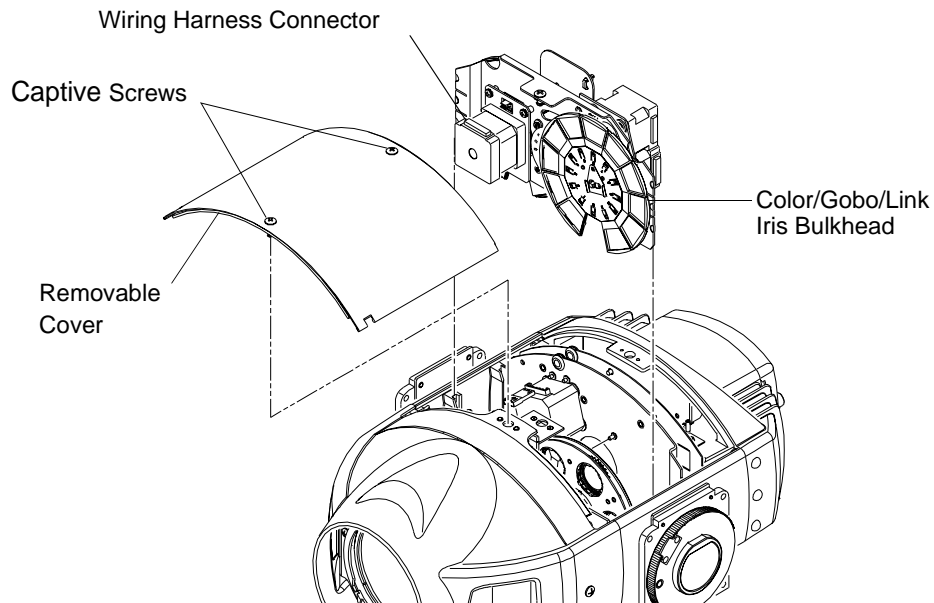

Figure 2-5: Color/Gobo/Link Iris Bulkhead Replacement
- Step 2. At head cover, turn two captive screws one-quarter turn and remove cover. (It will remain attached by tether.) **Figure 2-5.**
Step 2. At head cover, turn two captive screws one-quarter turn and remove cover. (It will remain attached by tether.) **Figure 2-5.**